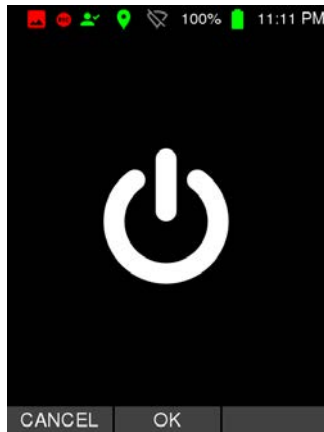

Figure 154: Shutting down the RADEAGLET-R
4. Press  to confirm the command (Fig. 154, p. 142).